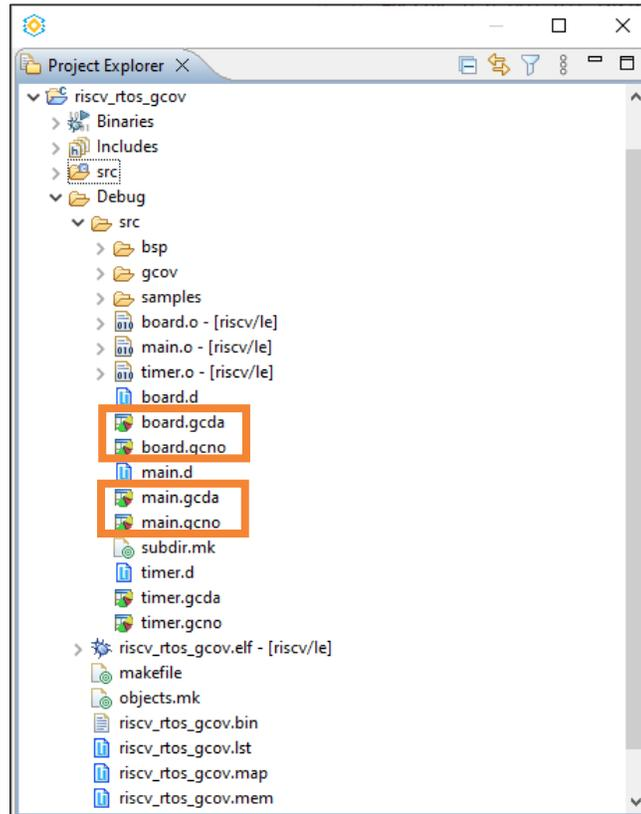

Figure 6.7. Coverage Files
1. Check the coverage files (Figure 6.7).